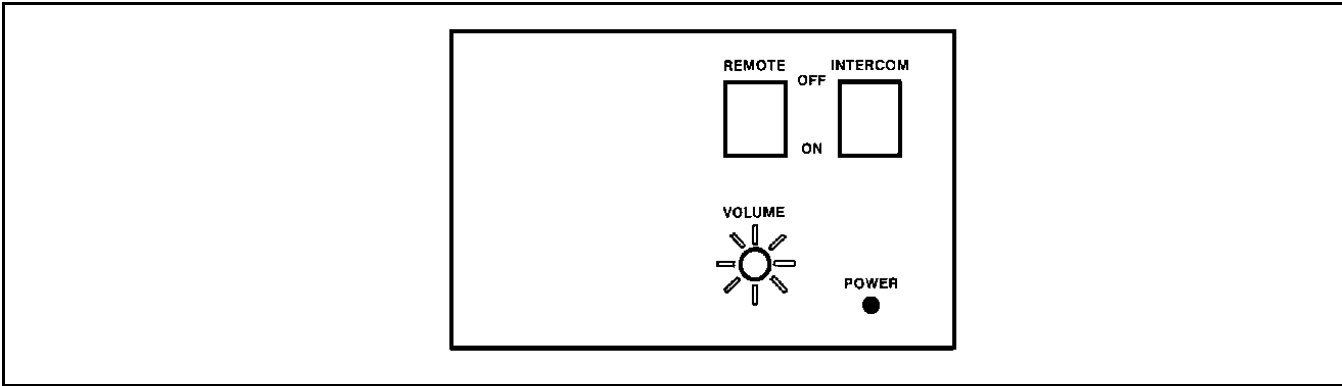

Figure 5 - Control Panel With Remote Option
- **Standard Station with Remote Option** - In addition to the LED **POWER** indicator, there is a **REMOTE ON/OFF** switch, an **INTERCOM ON/OFF** switch and a **VOLUME** control (see Figure 5).